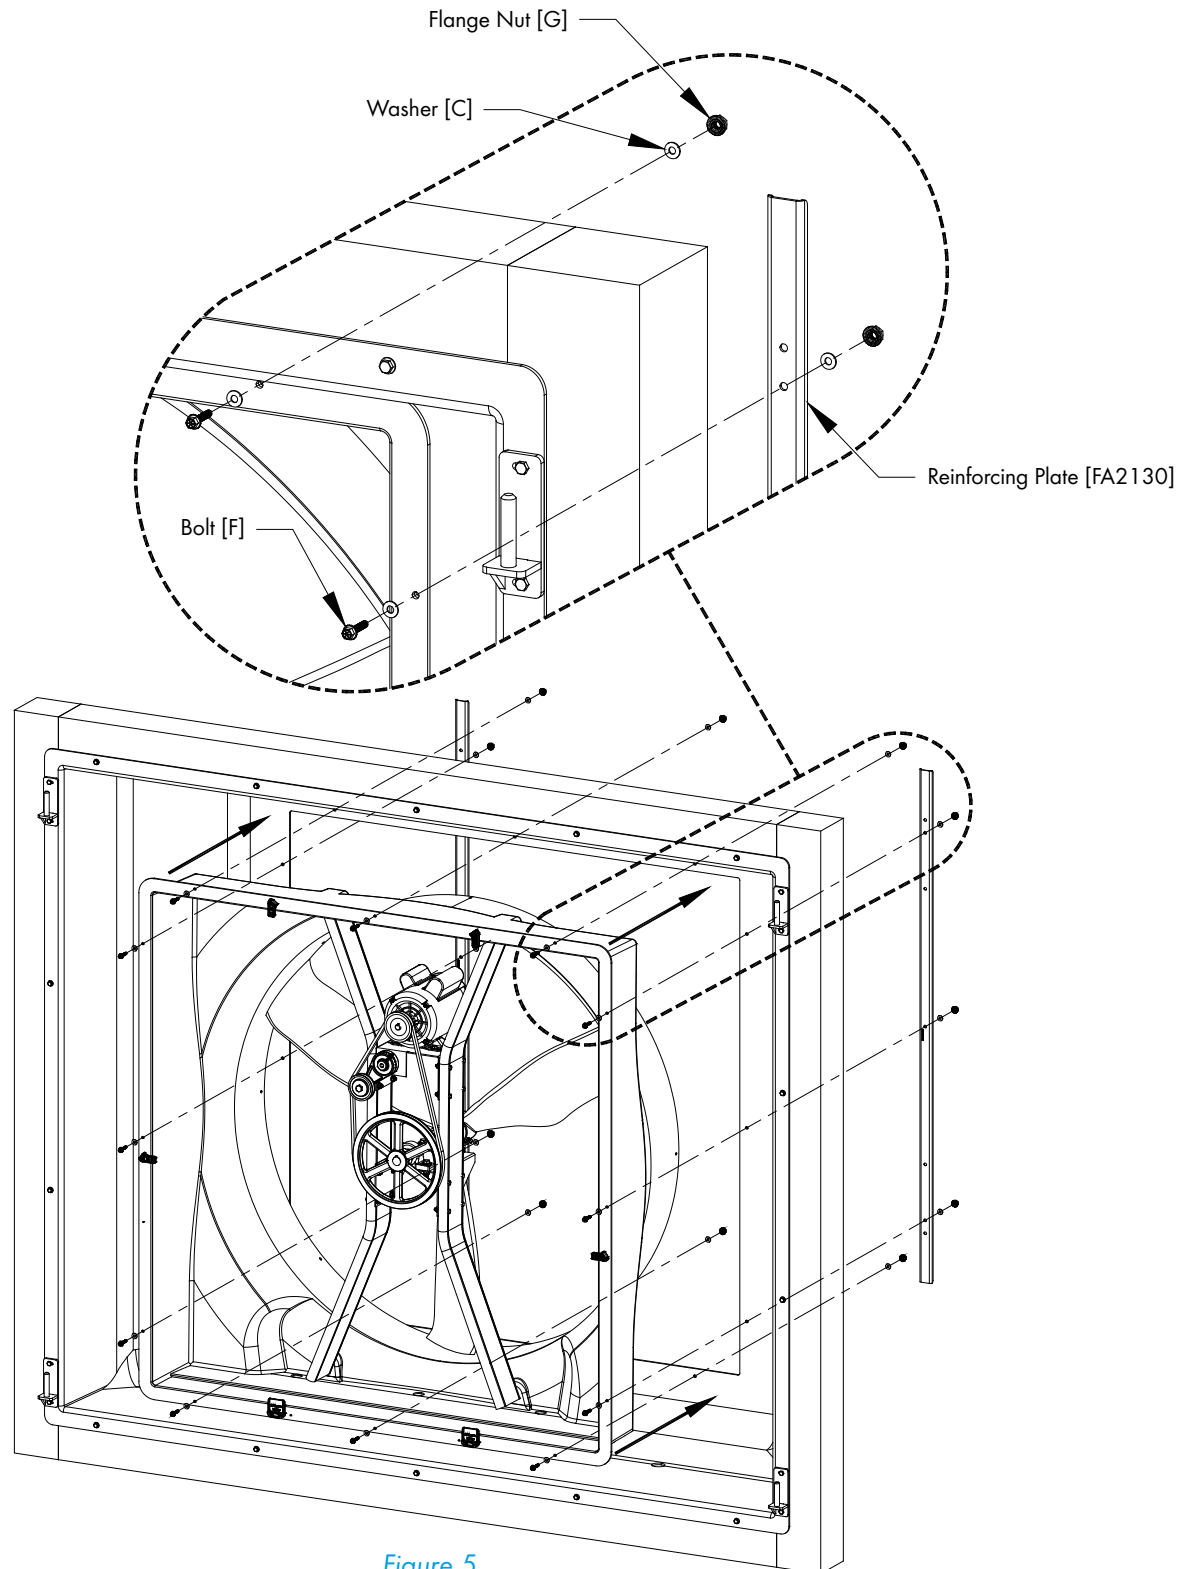

Figure 5
Install the proper fan into the LTX Housing and secure in place using (12) Bolts [F], (24) Washers [C] and (12) Flange Nuts [G]. On the outside of the LTX Housing, a Reinforcing Plate [FA2130] will run vertically along each side of the opening for the fan. The bolt head should be on the fan flange in the housing and the nut should be on the outside of the LTX Housing. *See Figure 5.*